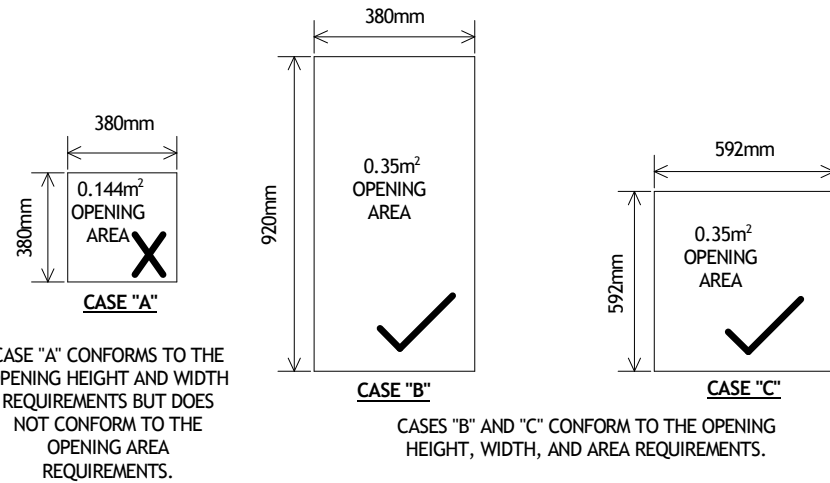

FIGURE A-9.9.10.1.(1)
**A-9.9.10.1.(1) BEDROOM WINDOW OPENING AREAS AND DIMENSIONS.** ALTHOUGH THE MINIMUM OPENING DIMENSIONS REQUIRED FOR HEIGHT AND WIDTH ARE 380mm. A WINDOW OPENING THAT IS 380mm BY 380mm WOULD NOT COMPLY WITH THE MINIMUM AREA REQUIREMENTS. (SEE FIGURE A-9.9.10.1.(1))